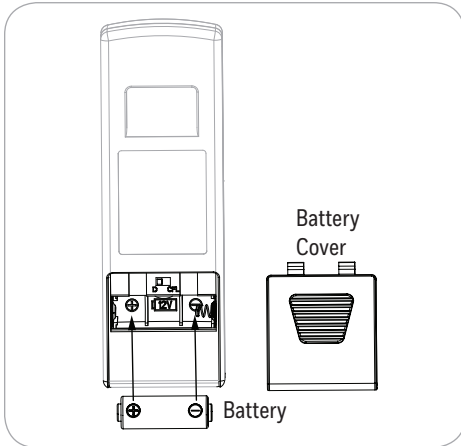

Figure 5.10
10. Remove the battery door from the back of the remote. Insert the battery from the remote pack into the remote; ensure polarity of the battery matches the polarity indicated in the battery compartment -- positive (+) to positive (+) and negative (-) to negative (-). Replace the battery door and press the Fan Power button to ensure the LED indicator illuminates and the remote turns on the fan (Figure 5.10). **Note:** If the remote does not turn on the fan, see TROUBLESHOOTING (page 9).